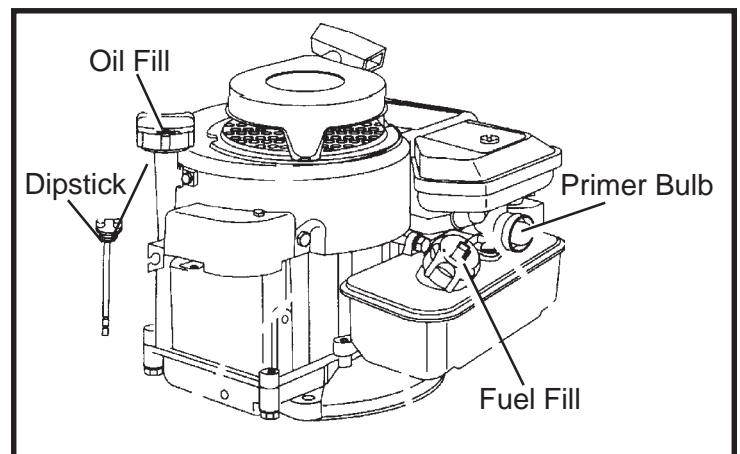

Figure 2
7. Check oil level. Remove dipstick and wipe with clean cloth. Reinsert dipstick and tighten. Remove again to check oil level; oil should be at the Full mark. See Figure 2 for oil fill location.